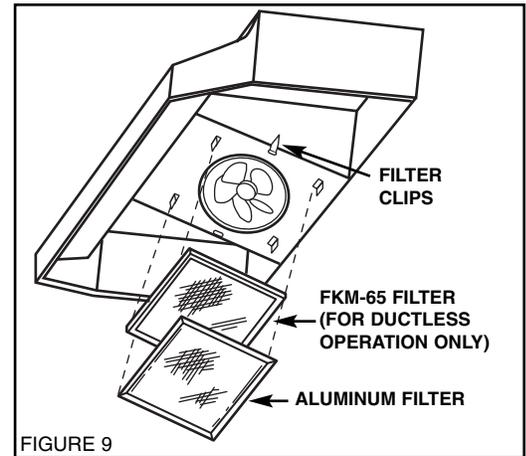

FIGURE 9
3. **For ductless use with charcoal filter (FKM-65):** Install 2 filter clips by sliding into the receivers on the sides of the hood fan housing. See Figure 9.
Refer to Figure 9. In non-ducted installations use FKM-65 filter and replace every 3-6 months as needed. Always install the FKM-65 filter first (nearest fan) with carbon side towards fan and the aluminium filter second. Install filter clips by sliding into brackets on side of air chamber.